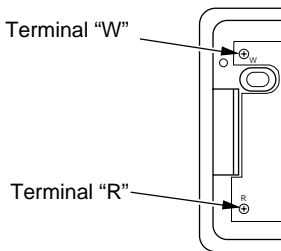

Figure 34 - Thermostat Base Terminals “W” and “R”
6. Connect one bare wire end to each terminal (“W” and “R”) of the thermostat base (see Figure 34).